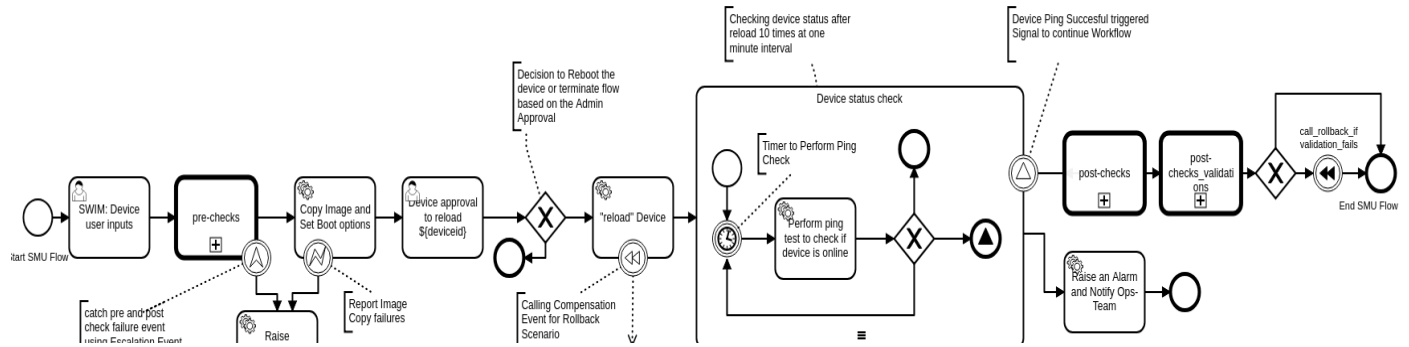

Figure 1 - BPMN Diagram for SMU with Ping check
- a. Continuous Ping check within stipulated time. [Fig 1]